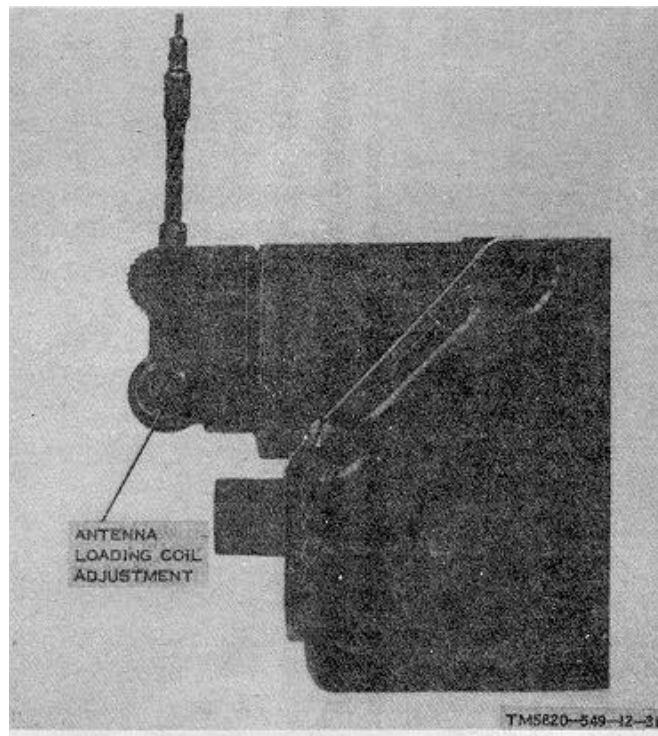

Figure 3-8. Receiving Set, Radio AN/PRR-9, antenna loading coil adjustment.
r. Adjust the AN/PRR-9 antenna loading coil (fig. 3-8) for *minimum* noise. Vary the distance of the AN/PRR-9 from the ID-1189/ PR, or adjust the ID-1189/PR RECVR TEST SIG. rotary switch to maintain some noise in the AN/PRR-9. Repeat the AN/PRR-9 antenna loading coil adjustment until no further reduction of noise can be obtained.
r. Adjust the AN/PRR-9(XE-9) antenna loading coil (fig. 3-8) for *minimum* noise. Vary the distance of the AN/PRR-9(XE-9) from the ID-1189(XE-2)/PR or adjust the RCVR TEST SIG. rotary switch to maintain some noise in the AN/PRR-9(XE-9). Repeat the adjustment of the antenna loading coil until no further reduction of noise can be obtained.